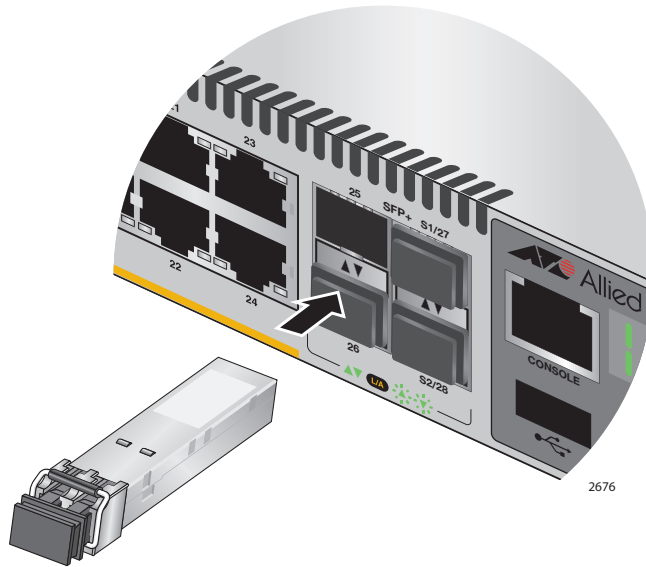

Figure 71. Installing an SFP or SFP+ Transceiver
- Slide the transceiver into the slot until it clicks into place, as shown in Figure 71 on page 118.